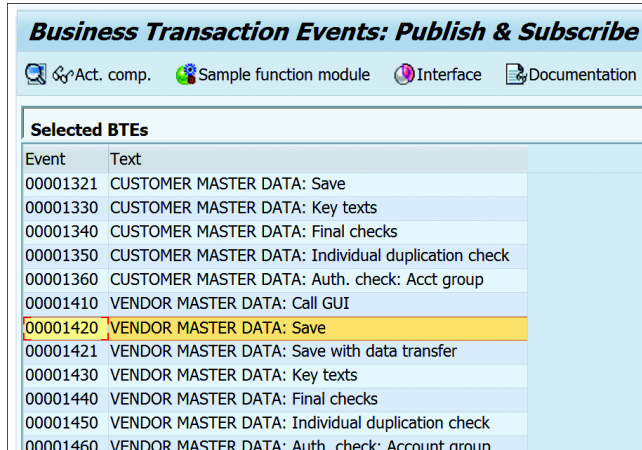

Figure 20.64 BTE Events
3. The program will list all the available events. Search for the event you want to implement. For this example, implement event 00001420, as shown in Figure 20.64.